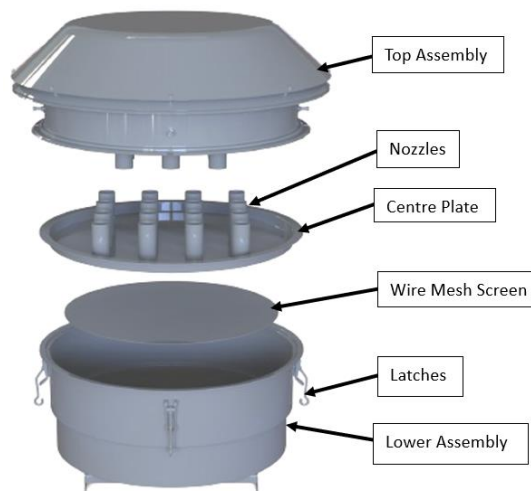

Figure 13 – PM₁₀ Components Layout
1. **Open the Top Cover:** Release the four latches, gently lift and remove the top cover, be careful not to damage it or the assembly, refer to Figure 13.
4. **Reattach the Top Cover:** Lift the top cover back onto the SSI Inlet Assembly and secure it by closing the four latches, refer to Figure 13.